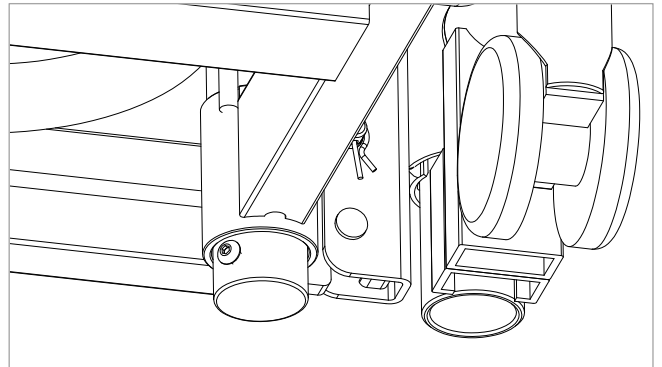

Figure 6.6
5. Once the screw has been fitted, the Lifting Pole should be fully secured (see Figure 6.6).